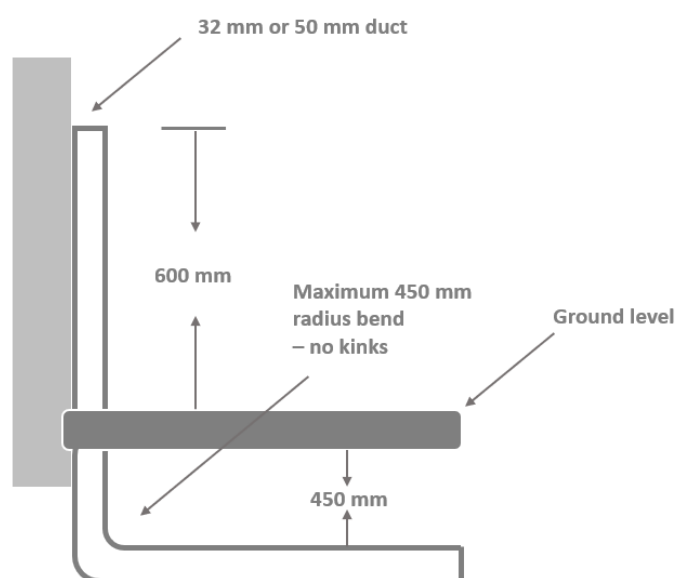

Figure 1: External duct without ETU
- Locate the duct on a convenient external wall to a height of 600 mm above ground level if an ETU cannot be provided. (Figure 1)